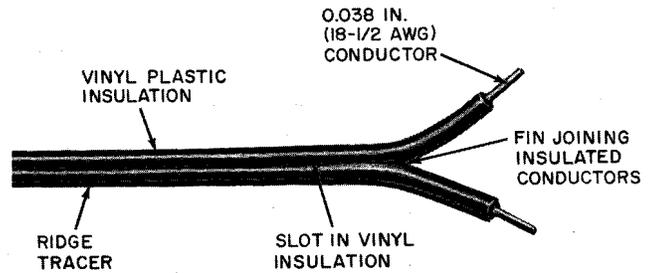

Fig. 1—F Drop Wire
2.01 **F drop wire** consists of a parallel pair of two copper-covered steel conductors 0.0380-inch in diameter that are insulated with a single layer of black vinyl plastic compound. The insulation is slotted on both sides. A single ridge tracer is provided on the insulation surface for conductor identification (Fig. 1).